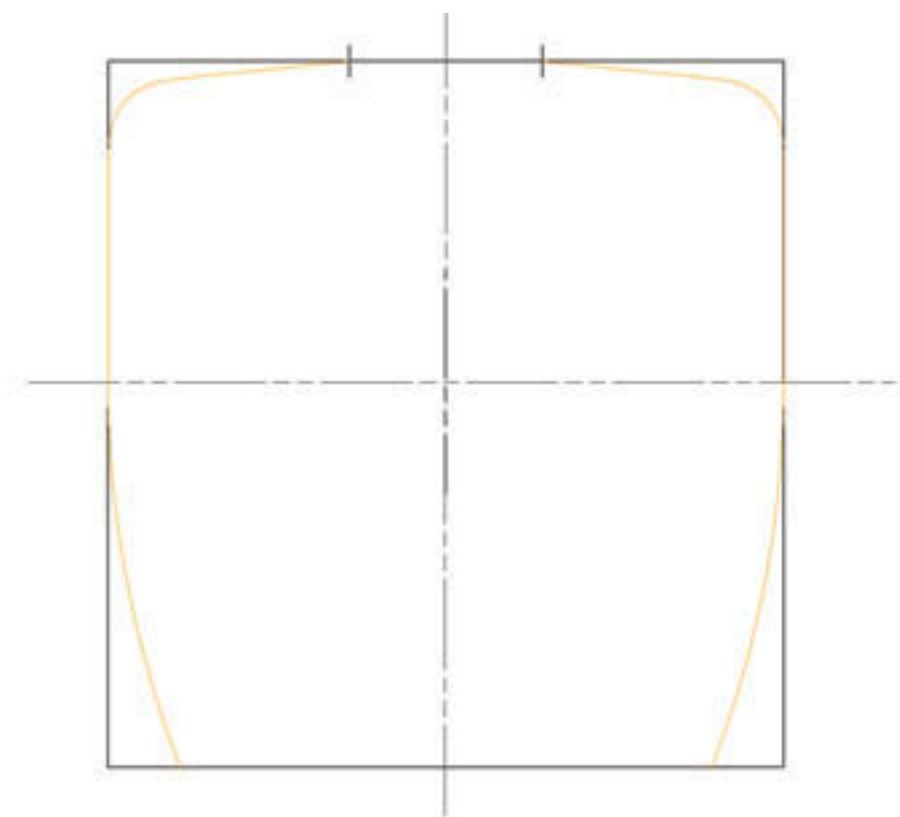

Fig. 81: Final tank shape
7. Combine the calculations for the top and bottom to get the complete shape of the tank (figure 81). This is also the shape and size of the vertical steel bar pieces needed to build a form.